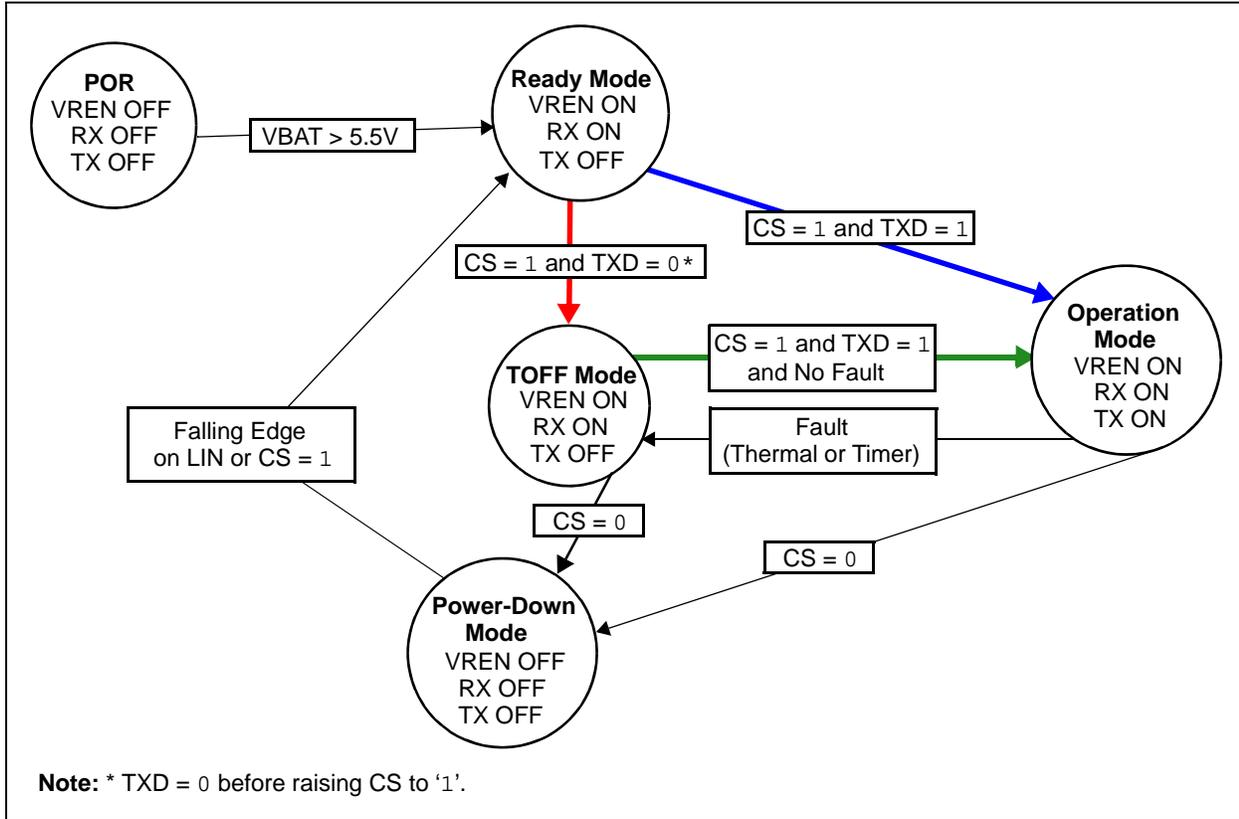

FIGURE 2: Entering MCP2003 Power-Down Mode From Operation Mode or Transmitter-Off Mode.
- Passing through Transmitter-Off mode (T_{OFF}), which is shown in red in Figure 2
- Passing through Operating mode, which is shown in blue in Figure 2